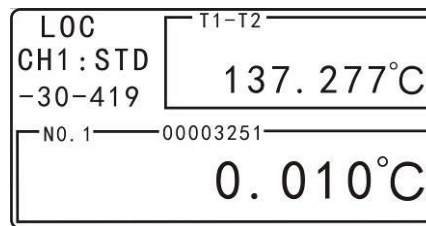

Figure 20
- ①: Channel 1, the No. of the thermometer currently used by channel 1, and where the cursor locates indicates the resistance value of this channel displayed on the VFD screen.
- ②: The measuring range currently used by channel 1.
- ③: Channel 2, the No. of the thermometer currently used by channel 2.
- ④: The measuring range currently used by channel 2.
- ⑤: Current resistance value measured by channel 1.
- ⑥: Current temperature value measured by channel 1.
- ⑦: Current resistance value measured by channel 2.
- ⑧: Current temperature value measured by channel 2.
5.3.2 Single Display on Main Display Window (Figure 20)